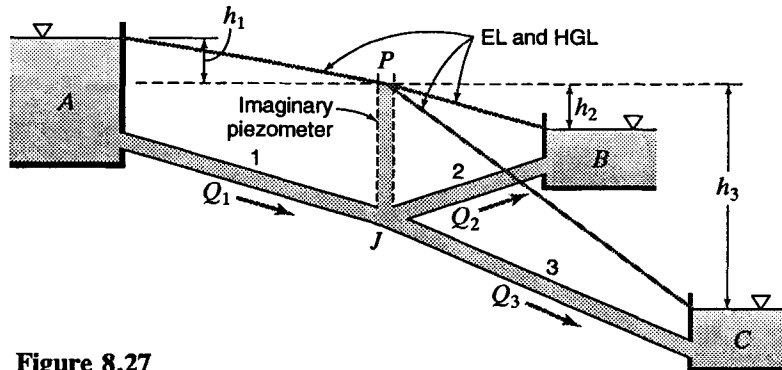

Figure 8.27
8.79 In Fig. 8.27, suppose that pipe 1 is 36-in smooth concrete, 5000 ft long; pipe 2 is 24-in cast iron, 3000 ft long; and pipe 3 is 20-in cast iron, 1300 ft long. The elevations of the water surfaces in reservoirs A and B are 225 and 200 ft, respectively, and the discharge through pipe 1 is 42 cfs. The water temperature is 60°F. Using a basic scientific calculator only, find the elevation of the surface of reservoir C. Neglect minor losses and assume the energy line and hydraulic grade line are coincident.